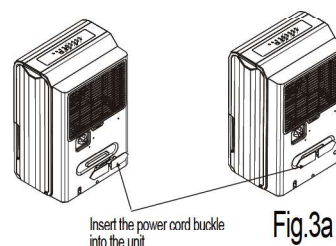

Fig.3a
- ❶ Continuous drain hose outlet
- ❷ Caster
- ❸ Power Cord and plug
- ❹ Power cord buckle (placed in the water bucket, used only when storing the unit. Installed as shown Fig.3a)
- ❺ Pump drain hose outlet(some models without)
- ❻ Air outlet grille
- ❼ Air filter